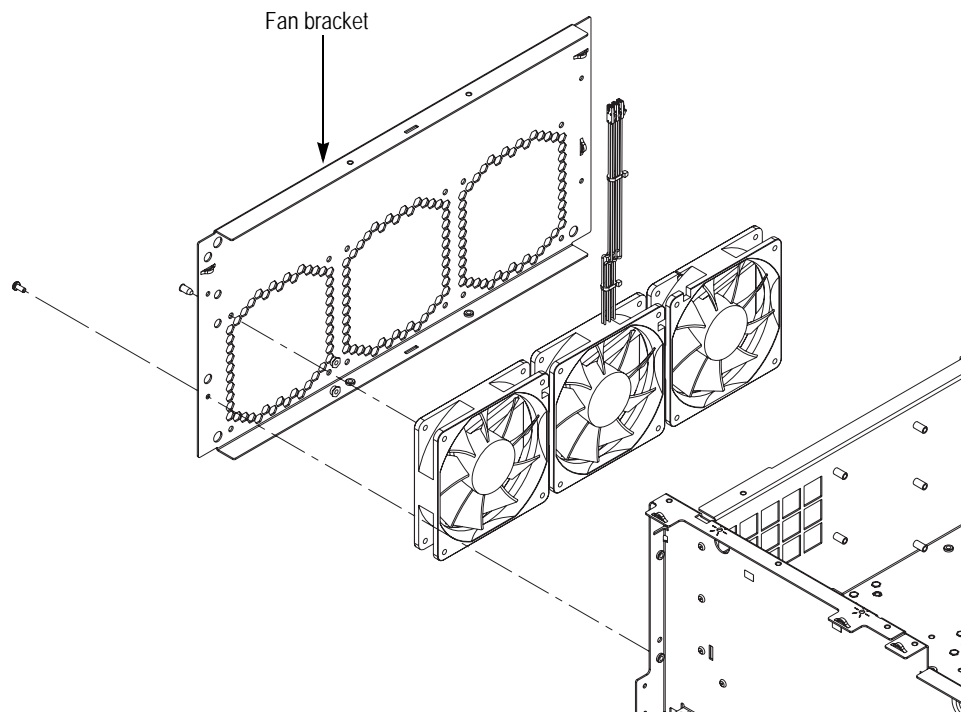

Figure 4-5: Fan tray unit removal
**Removal.** To remove the fan tray unit, refer to Figure 4-5 on page 4-14 and follow these steps: